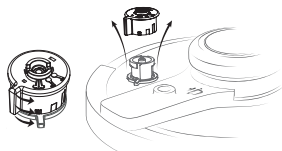
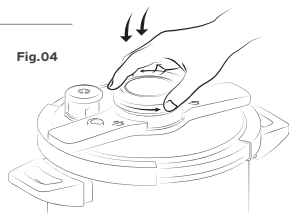

Fig.02
Fig.04
Turn the selector button to the position as shown in the image, move it and check the channel is clear. **(Fig.02)**
5. To close the cooker, place the lid with its claws opened and adjust the selector button as shown in the image **(Fig.02)**. Turn the open button counter clockwise, pressing a little bit down until you hear a click. **(Fig.04)**